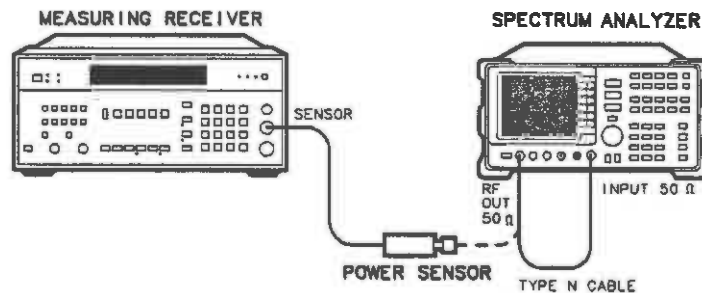

Figure 3-26. Absolute Amplitude and Vernier Accuracy Test Setup
1. Connect the Type N cable between the spectrum analyzer's RF OUT 50Ω and INPUT 50Ω connectors. See Figure 3-26.